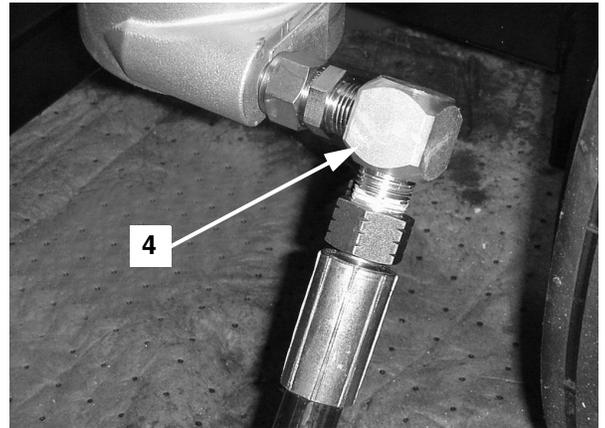

FIG. 9
9. Install elbow (4) into heater inlet. FIG. 9.